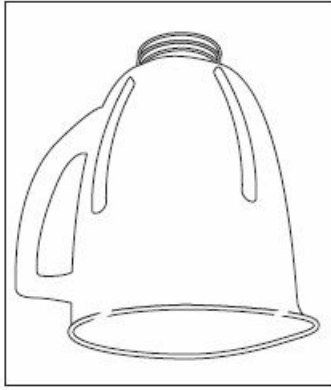

FIGURE 1
2. Turn Blender Jar upside down so the small opening is at the top. (Figure 1)